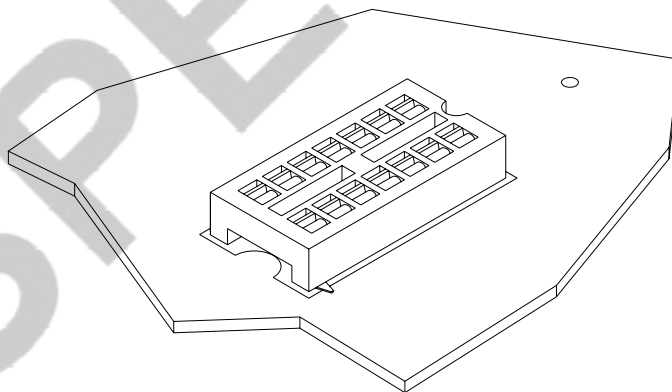

Fig. 13
- (iii) The component side of the PCB is shown in Fig. 13. Describe the two faults that can be seen.